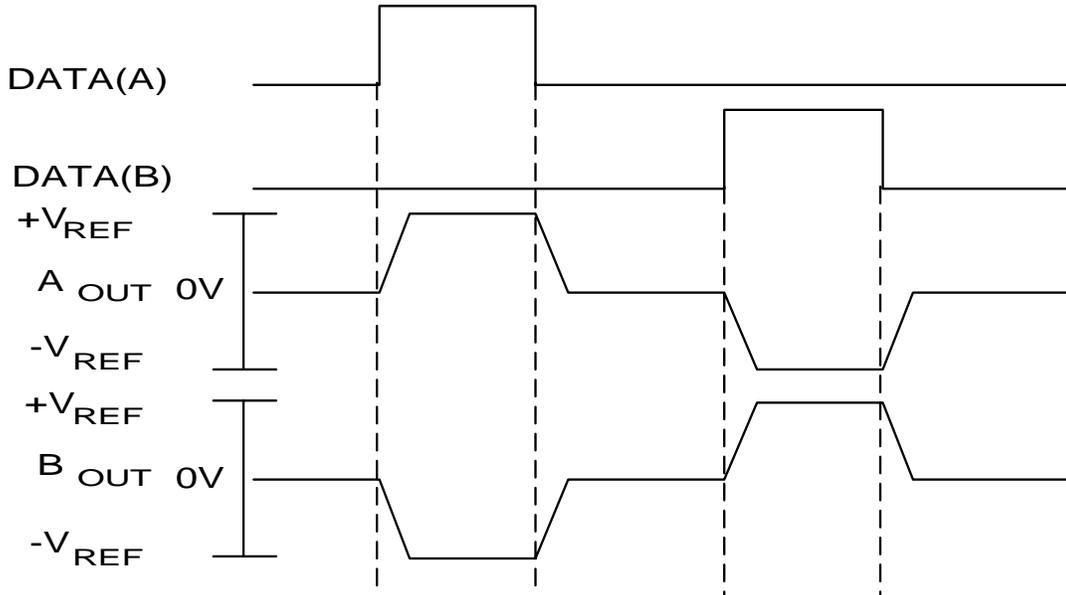
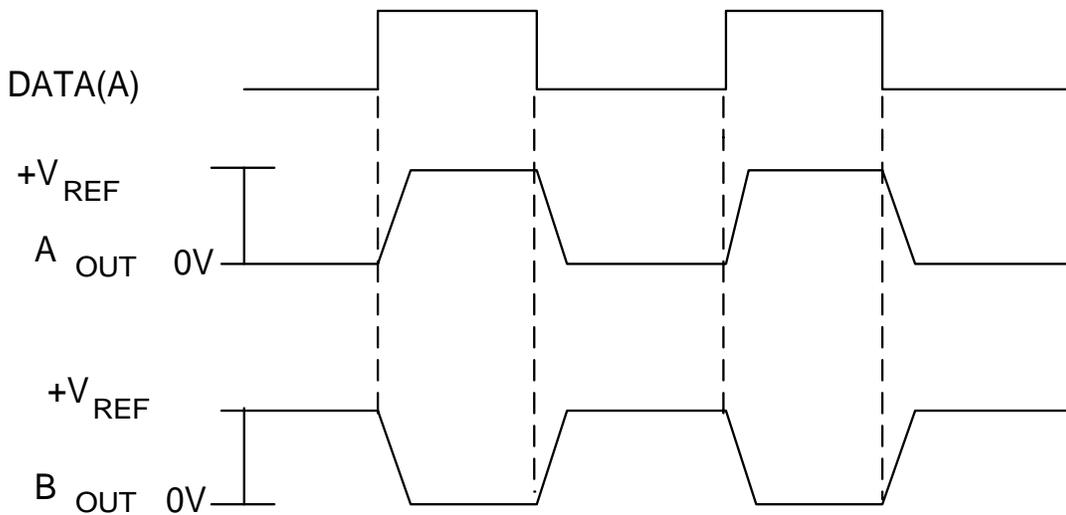

Figure 4: ARINC 429 Waveforms
Figure 5: RS-422 Waveforms
DATA(A) DATA(B)	Logic inputs. These signals contain the Serial Data to be transmitted on the ARINC 429 data bus. Refer to Figure 4 and Figure 5.
Figure 4 and Figure 5 show the output waveforms for the ARINC 429 and RS-422 modes of operation. The output slew rates are controlled by timing capacitors C_A and C_B . They are charged by $\pm 200\mu\text{A}$ nominal. Slew Rate (SR) measured as $\text{V}/\mu\text{sec}$, is calculated by: